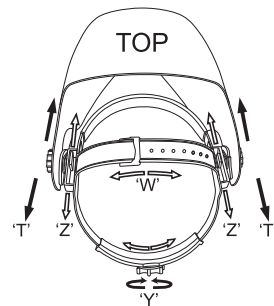

Fig.1
- Loosen the block nut on either side of the helmet and slide it nearer or further from your face. (See adjustment "Z" in fig.1) It is important that your eyes are each the same distance from the lens. Otherwise the darkening effect may appear uneven. Re-tighten the block nut when complete the adjustment.
- Adjusting view angle position (see fig.1)
- The overall circumference of the headband can be made larger or smaller by rotating the knob on the back of the headband. (See adjustment "Y" in fig.1) This can be done while wearing the helmet and allows just the right tension to be set to keep the helmet firmly on the head without it being too tight.
- If the headband is riding too high or too low on your head adjust the strap which passes over the top of your head. To do this release the end of the band by pushing the locking pip out of the hole in the band. Slide the two portions of the band to a greater or lesser width as required and push the locking pip through the nearest hole (See adjustment "W" in fig.1).